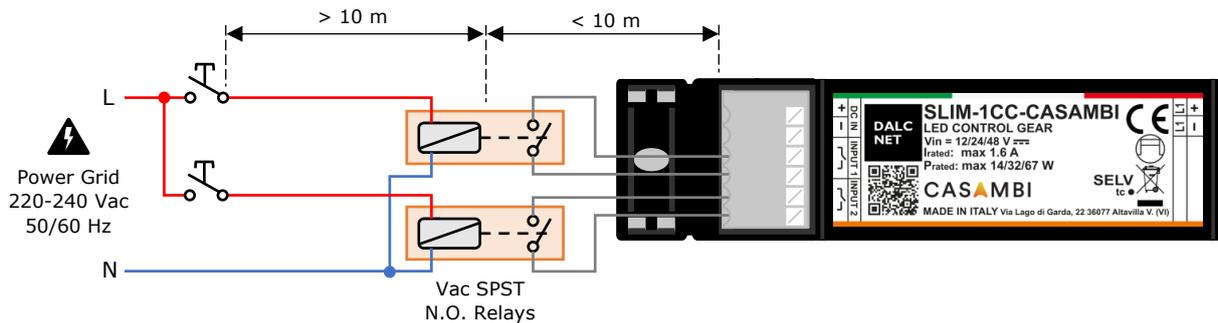

Figure 4: Local Command connection diagram for Long Distances
-  For longer distances (> 10 m), it is recommended to use an N.O. dry contact relay module, connected between the "Input" terminal of the SLIM-1CC-CASAMBI and the power source (e.g. mains voltage 230 Vac). Figure 4 shows an example of a Local Command connection recommended for long distances.